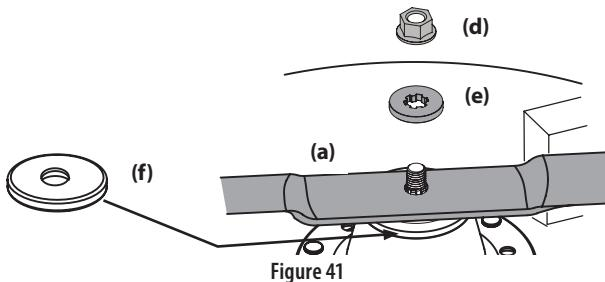

Figure 41
4. Remove the flange nut (d) and flat washer (e) securing the blade (a) to the mower and remove the blade. See Figure 41.